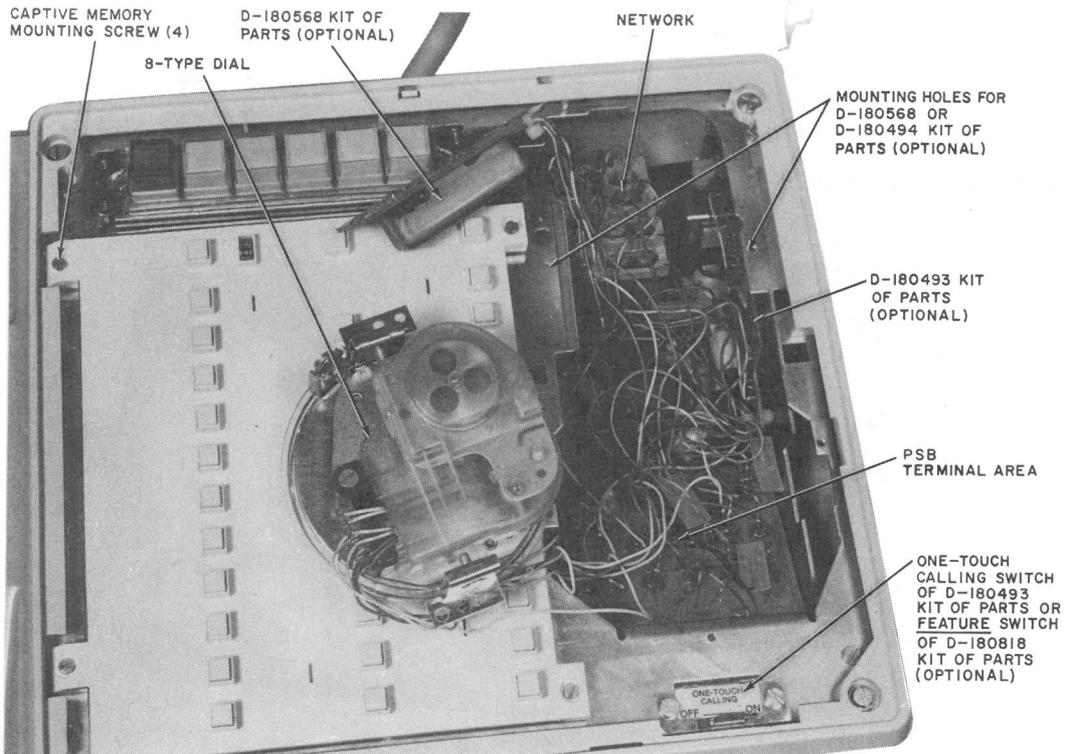

Fig. 4—872A1M Telephone Set—Dial Removed To Show Terminal Area
(b) Under the faceplate, inside the set (Fig. 4 and 5):
- Power supply board (PSB) terminal area (Fig. 4)
- Network (Fig. 4)
- Options (Fig. 4):